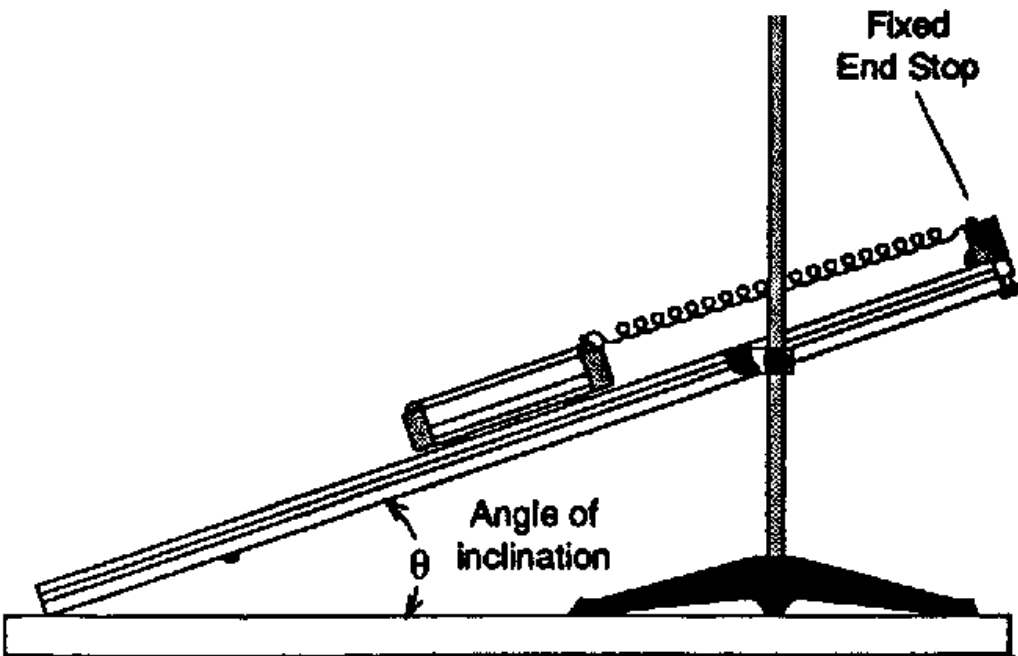

Figure 1
2. Set the cart on the track and attach the stiff spring to one end of the cart by inserting the end of the spring in the hole provided in the cart. Then attach the other end of the spring to the end of the track (See Figure 1). Verify/tighten the fixed end stop. Verify/tighten the fixed end stop as necessary during lab.